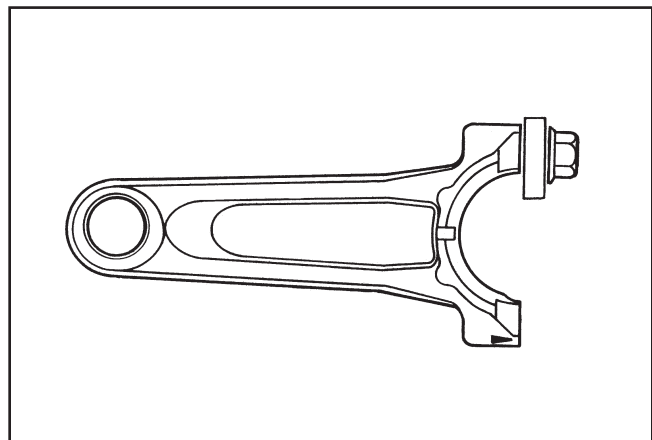

Figure 2-2. Rocker Arm/Crankshaft Tool.
4. Use a flat washer with the correct I.D. to slip on the capscrew and approximately 1 in. O.D. (Kohler Part No. **12 468 05-S**). Assemble the cap-screw and washer to the joint surface of the rod, as shown in Figure 2-2.